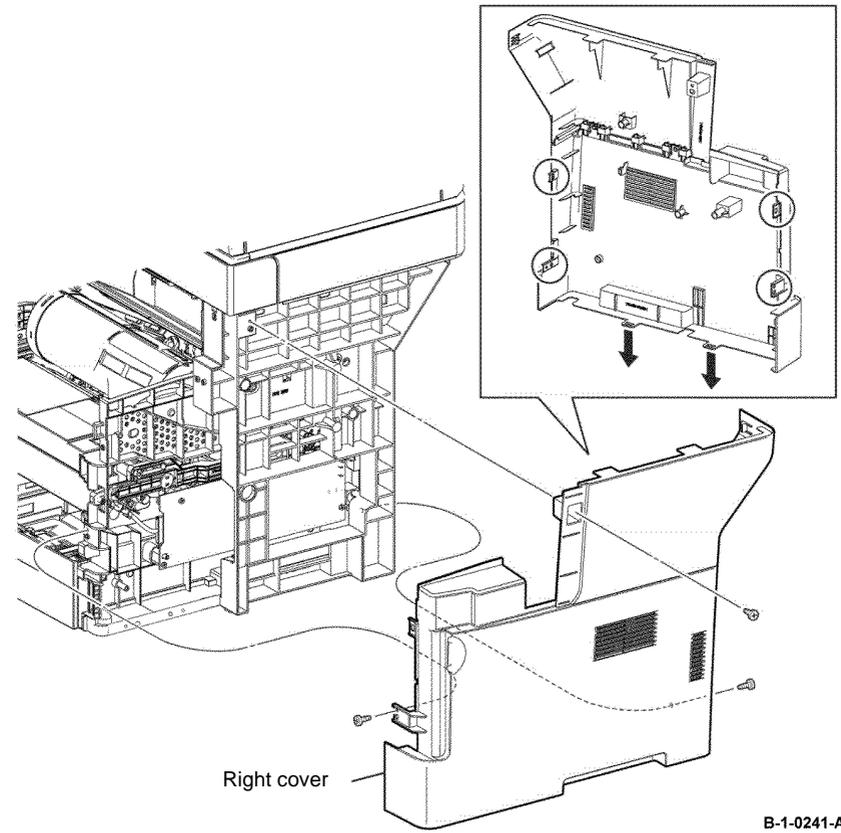

Figure 2 Right cover assembly removal
6. Remove three screws (silver, tapping, 8mm) that fix the right cover. Release four holes from the bosses on the frame. Release two hooks, then remove the right cover, Figure 2.